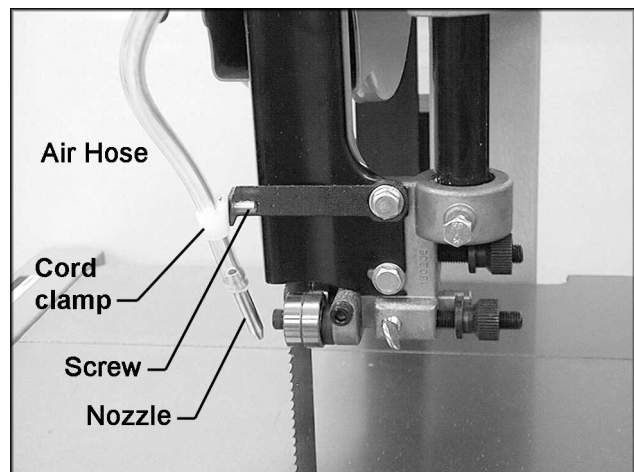

Fig. 10a
21. Connect the top end of the air hose to the blade guide assembly with the pan head screw through the cord clamp (Fig. 10a). Again, use a lighter or match to heat the end of the hose before pushing the nozzle into it. NOTE: Push the wide end of the nozzle into the hose; the tapered end will be pointed down toward the table as shown.